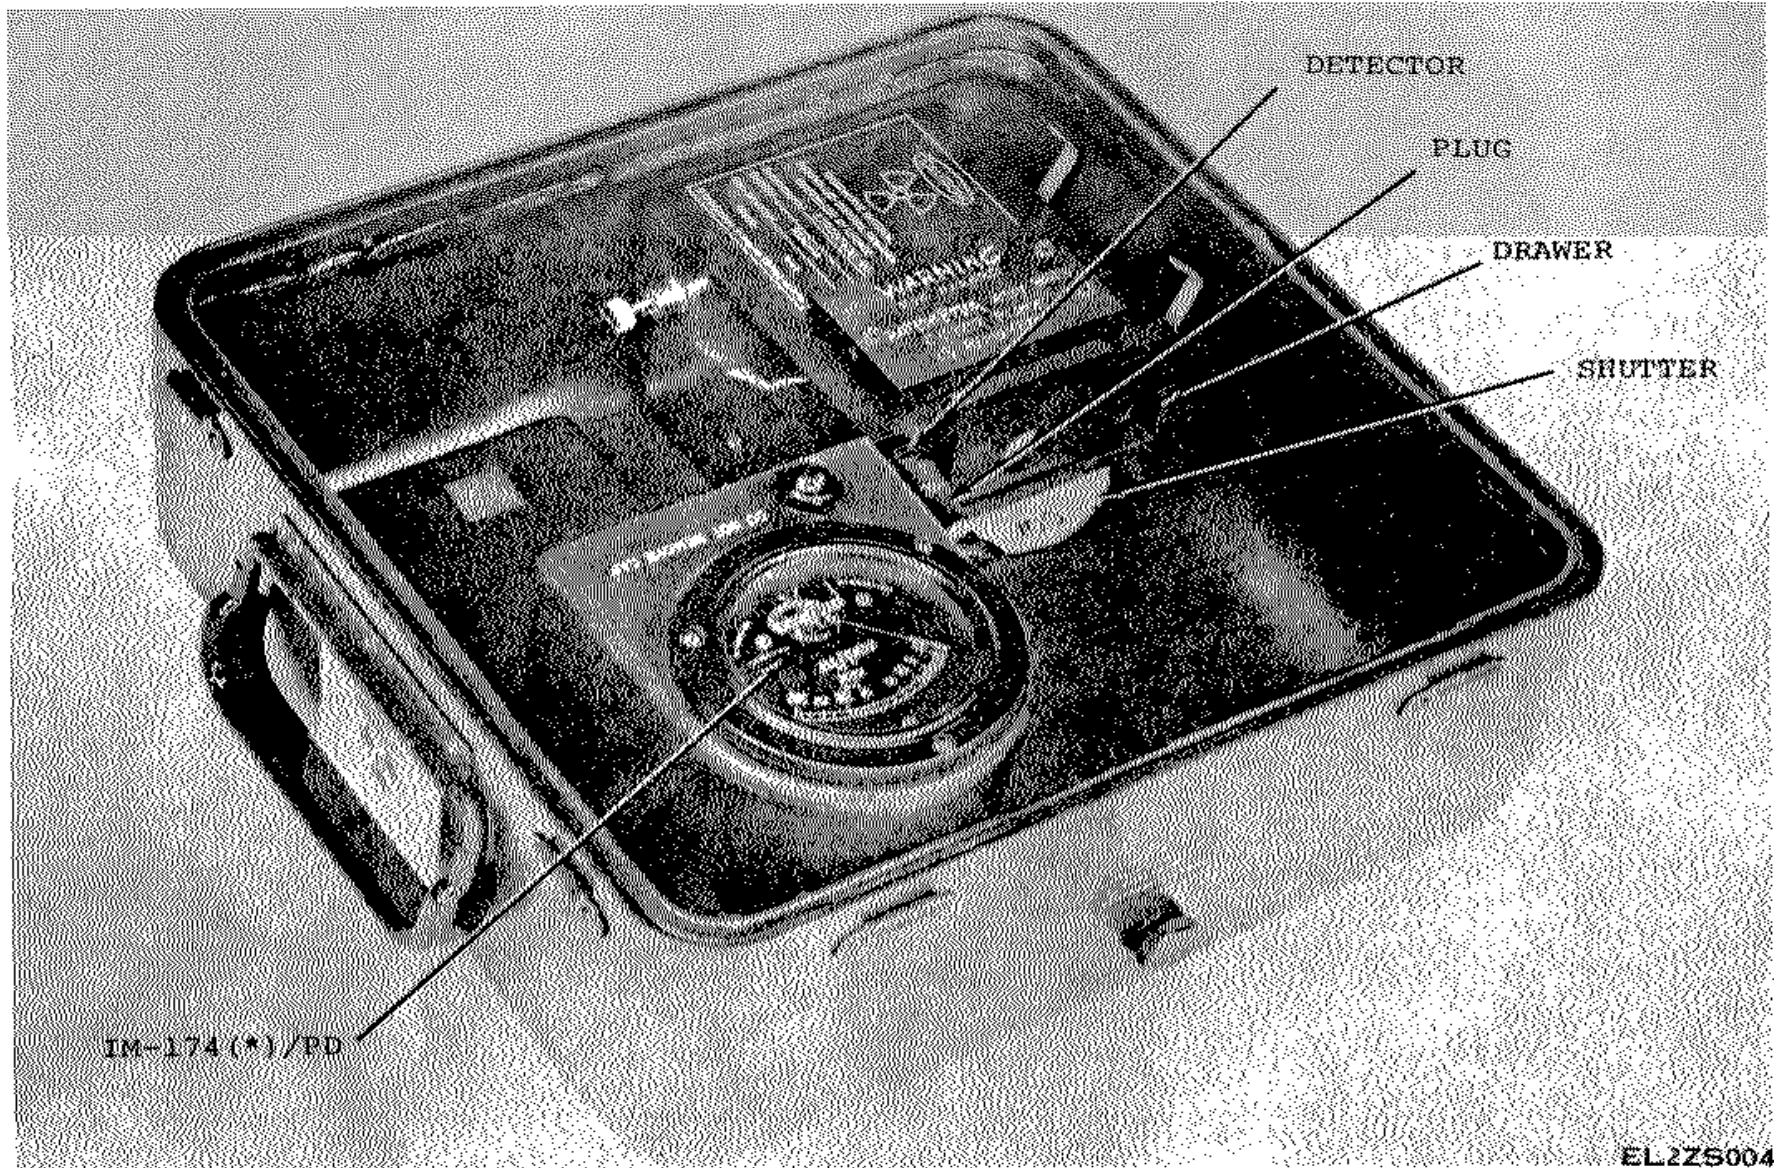

Figure 3-1. Checking Radiacmeter IM-174(*)/PD
(4) Carefully lift the IM-174/PD and ionization chamber, and place them inside the ratemeter case with the ionization chamber inside the sliding drawer with the beta window down (fig. 3-1).